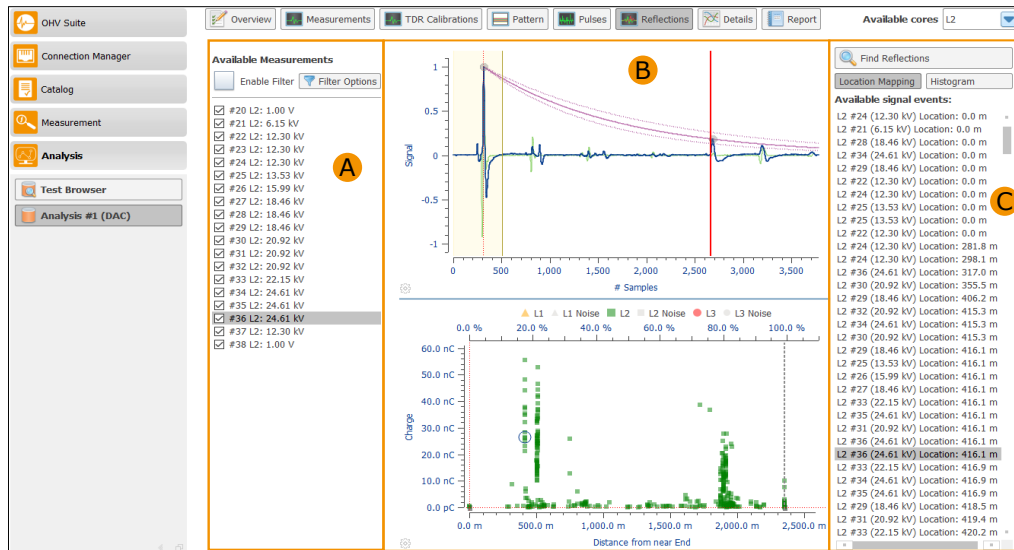

Figure 8.16: Reflections Overview (Simple analysis mode)
The reflection overview (cf. Figure 8.16) shows the detected reflections of the cable. On the left side (A) all available shots are displayed. All selected shots are included in the reflection search. In the middle section (B) the location mapping diagram is displayed in the lower section and a selected reflection in the upper section of the diagram. On the right side (C) all found reflections are listed. The *Find Reflections* button starts the analysis.